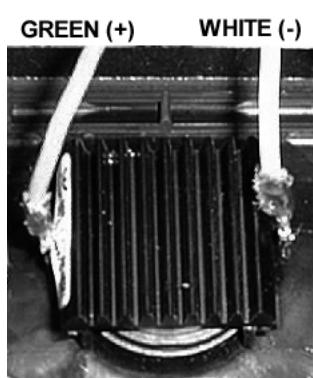

FIG. 2
4. Disconnect the (2) speaker wires from the tweeter (**FIG. 2**)